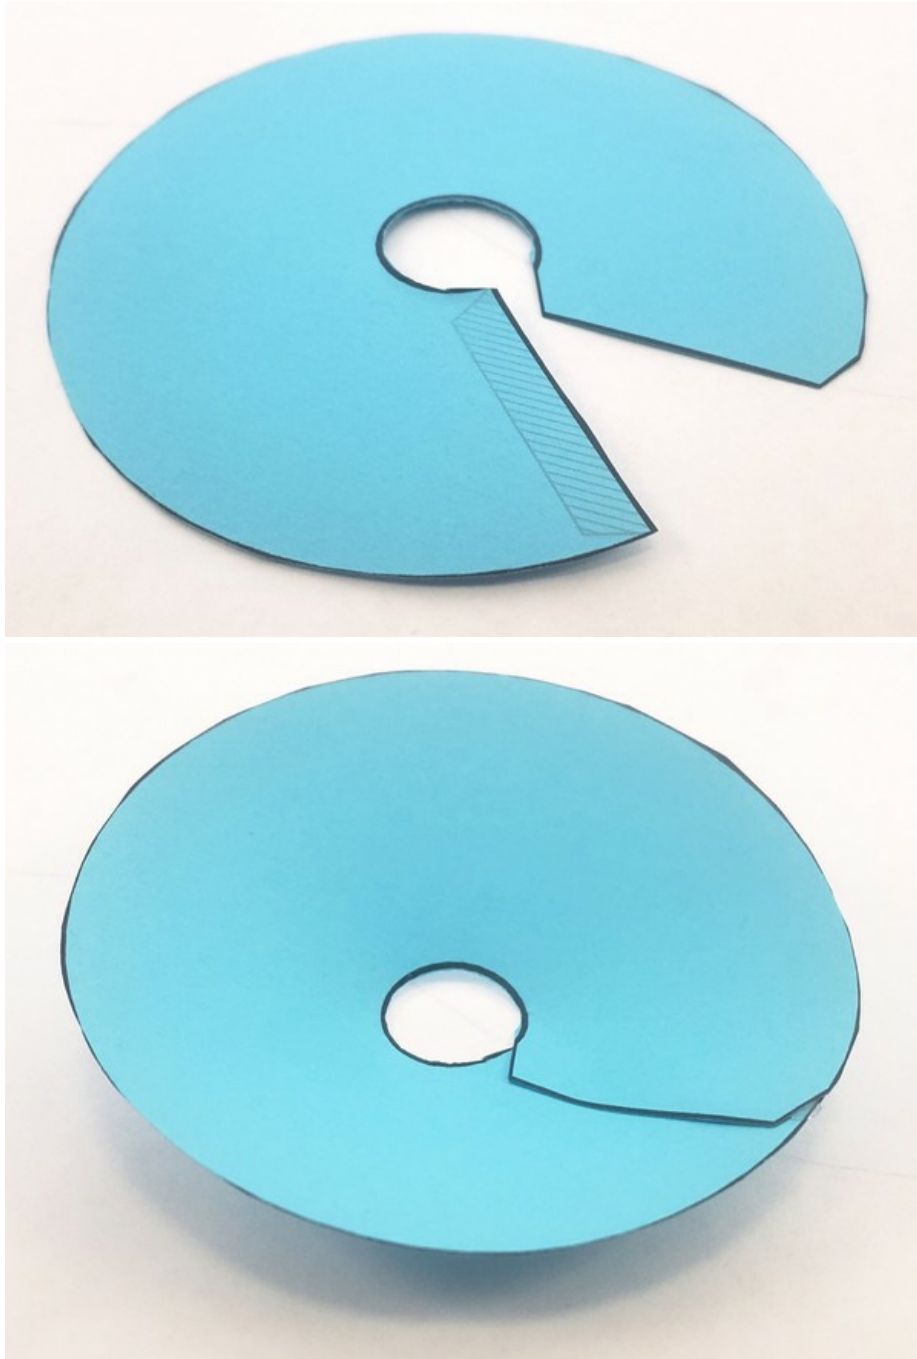

Figure 14. Top: speaker cone piece flat, before gluing. Bottom: piece with ends glued together, forming a cone shape.
13) Bend the cone slightly to glue the angled tab onto the shaded area (Figure 14). Allow the glue to dry.